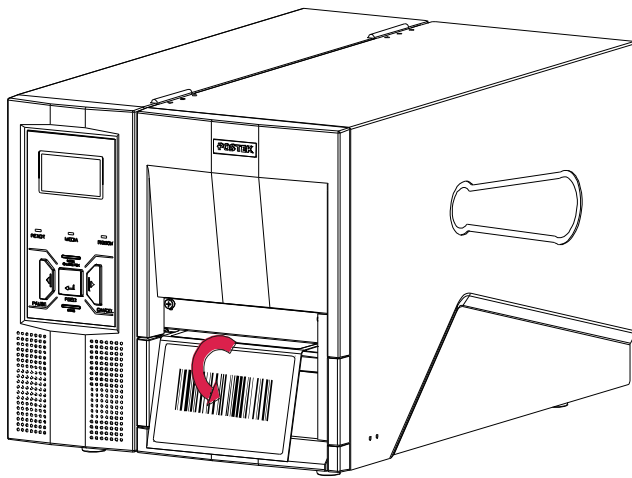

**Figure 3-2**
2. Follow the directions shown in Figure 3-2 to tear off the label.